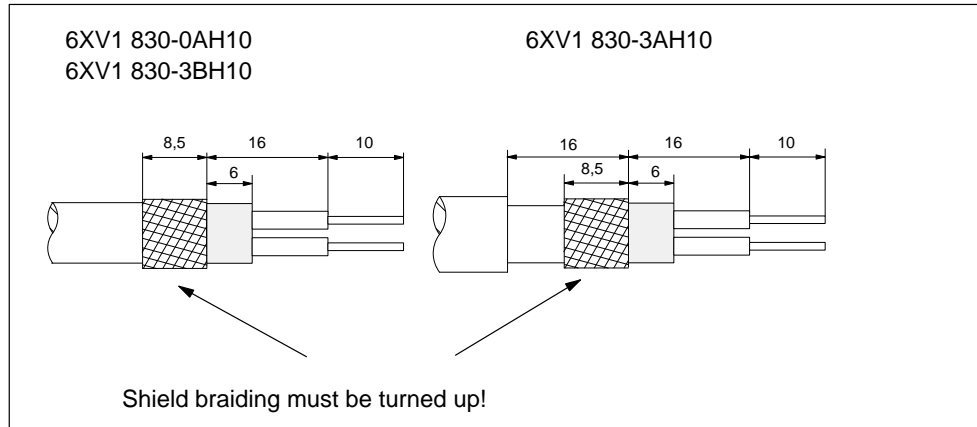

Figure 5-12 Lengths of the Stripped Insulation for Connection to the RS 485 Repeater
2. Strip the insulation off the PROFIBUS bus cable as shown in Figure 5-12.